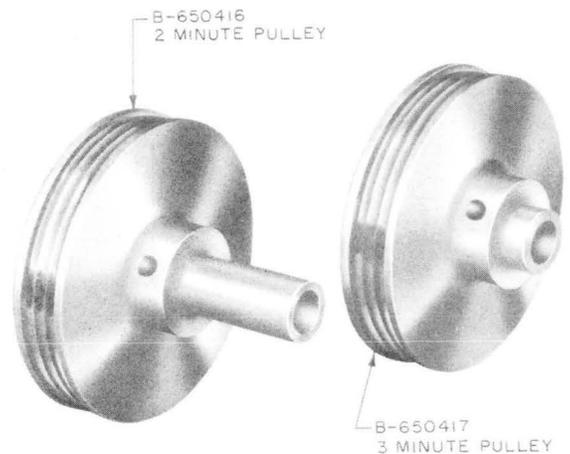

Fig. 11—Drive Pulleys
- (1) Remove the recorder from the announcement set as covered in subparagraphs 5.02(1) through (5).
- (2) Remove the flat drive belt.
- (3) Using the 6-inch B screwdriver, remove the four screws and lockwashers which fasten the motor drive assembly to the recorder base.
- (4) Remove the three round drive belts.
- (5) Using the proper size Hex wrench, remove the setscrew located in the collar of the B-650416 pulley (Fig. 11).